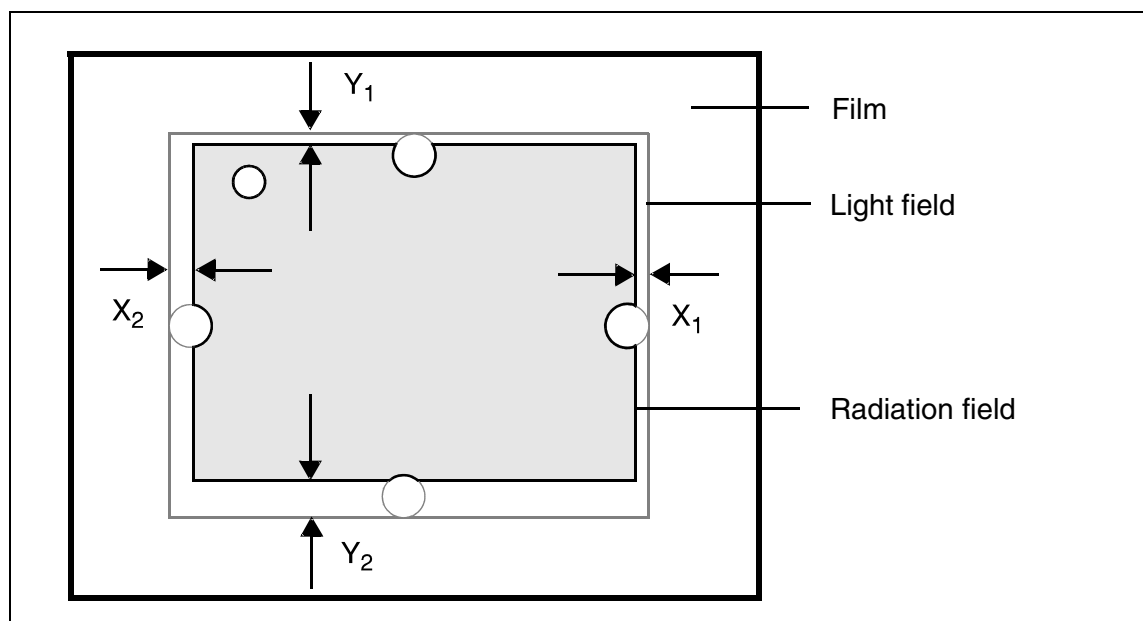

Fig. 3 Coincidence of light field / radiation field
- Switch on the light localizer. Mark the edges of the light field with radiation attenuating material and also affix a side marker, see Fig. 3.